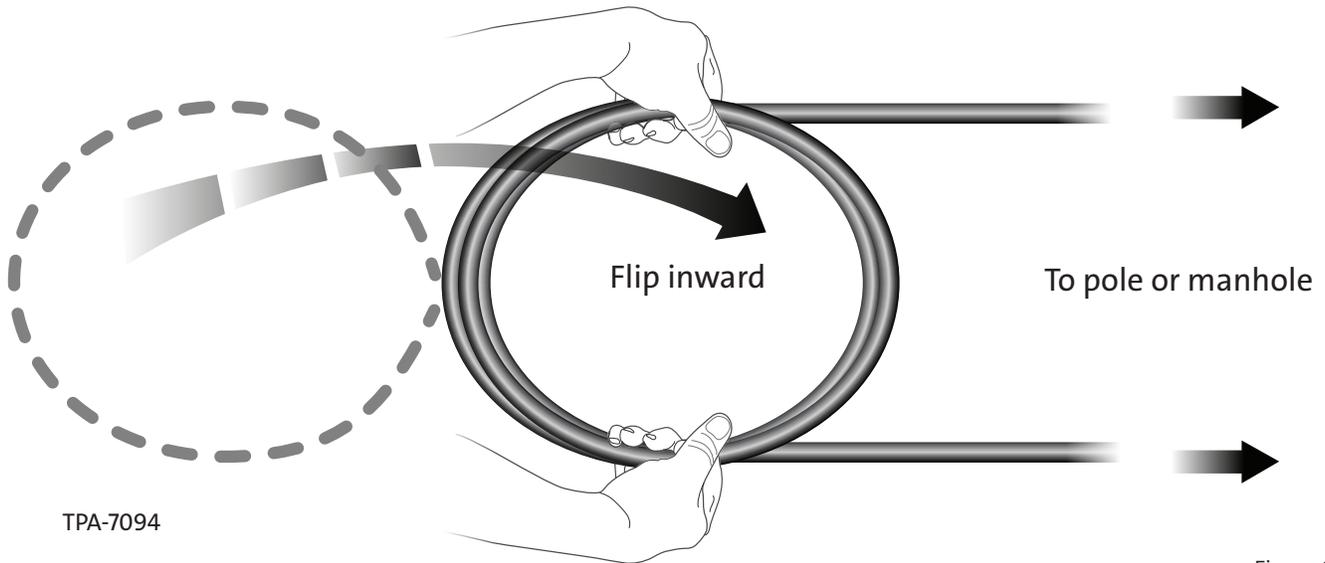

Figure 6
**Step 7:** Continue this process, alternating the rotation back and forth clockwise to counterclockwise. This will ensure that additional twisting does not occur within the cable. (Figure 6).